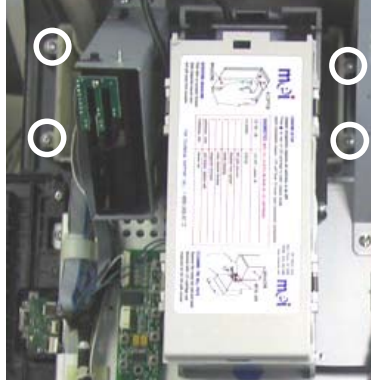

FIGURE 3 - LOCATION OF 4 SCREWS SECURING COIN & BILL ACCEPTOR BRACKET
5. Remove the 4 screws securing the coin and bill acceptor bracket, then remove the bracket from the unit (see Figure 3). Remove wires from plastic twist wraps as necessary.
3. Place the coin and bill acceptor bracket back into place and resecure with the existing 4 screws (see Figure 3). Resecure wires in the plastic twist clamps where necessary.